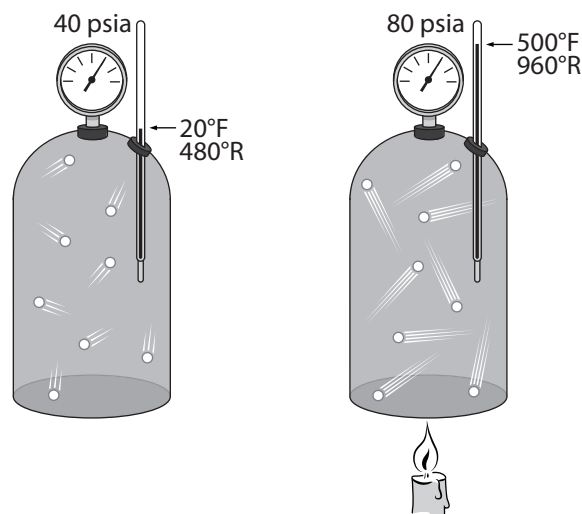

Figure 43 — Charles’ law 1
*Within a fixed volume, the absolute pressure of a gas is proportional to its absolute temperature (Figure 43).*